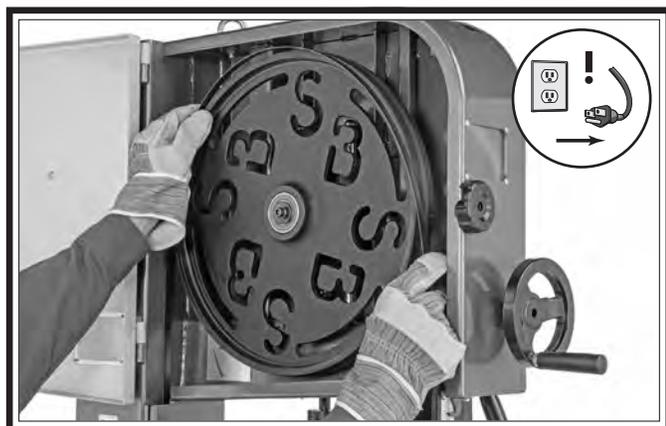

Figure 60. Example of placing blade on upper wheel.
3. Slip blade through blade guides, and mount it on upper and lower wheels (see Figure 60).